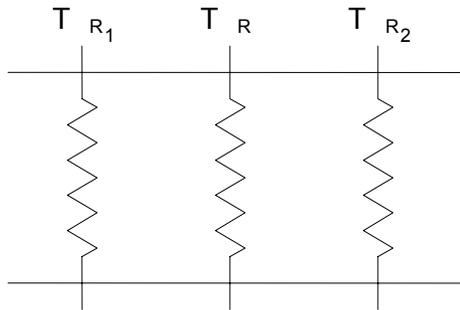

Figure 18-1: Loweric construction of a mass flow sensor.
The principle of the mass flow sensor is based on the transfer of heat created by the flow rate of gas passing over the surface of the sensitive element. The sensor is made up of a heating resistor (HR) and two thermosensitive resistors (RT1 and RT2) mounted inside a tube through which the gas passes (see Figure 18-1) (There is also a third temperature sensitive element to regulate the heating resistor).